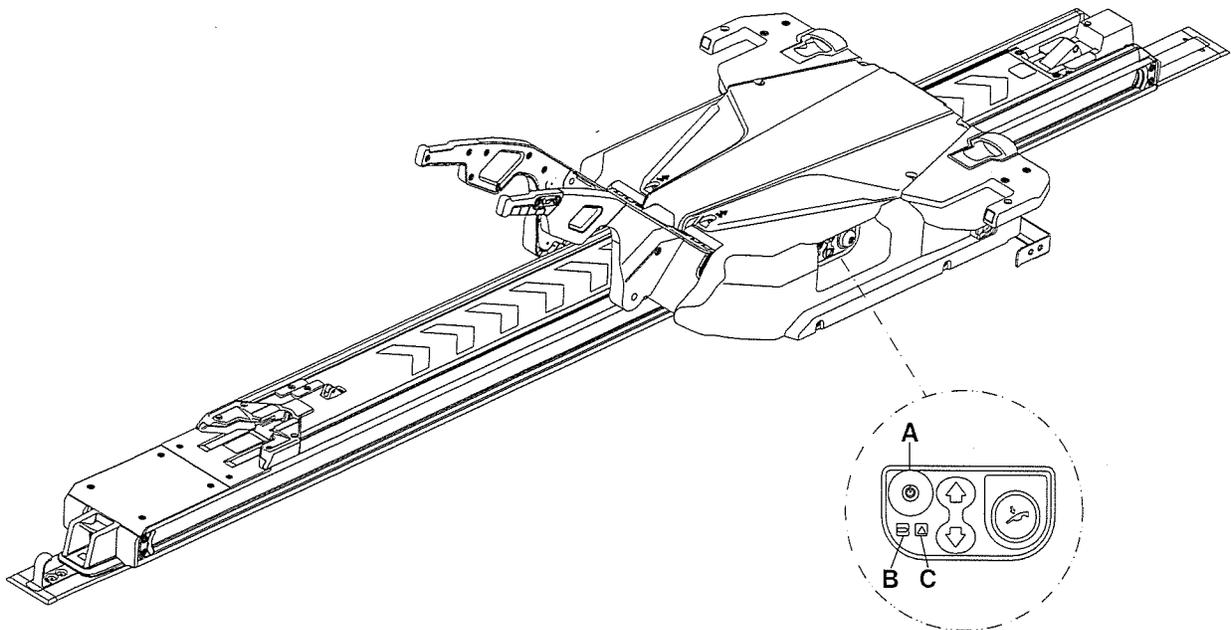

Figure 18: Power-LOAD control panel
31. Press the main power button (A) (Figure 18 on page 25), on the patient left side of the trolley assembly to turn power on to the product.